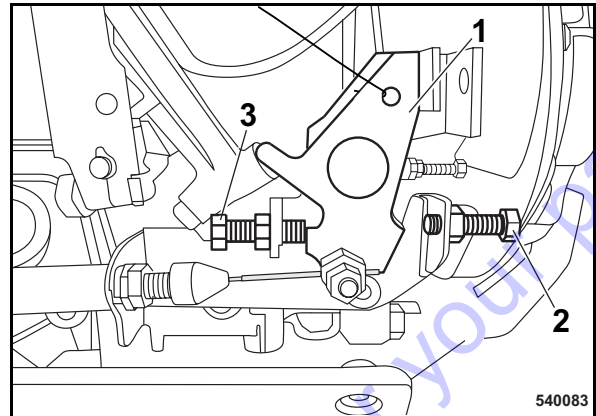

Fig. 61
- Adjust the idle speed using the rear stop screw (2) on the engine speed control lever (1) (Fig. 61).
- Adjust the maximum speed by the front stop screw (3).